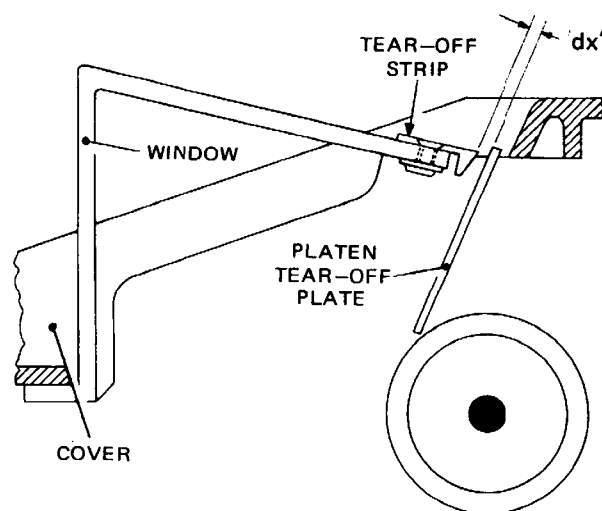

Fig. 4.136 TEAR-OFF STRIP (RIGHT - HAND SIDE)
- 148.1 Check that the gap between the tear-off strip and the platen tear-off plate (dimension 'dx' of Fig. 4.136) is 0.031–0.063 inch if single-ply stationery is used, or is of maximum width if multi-ply stationery is used.